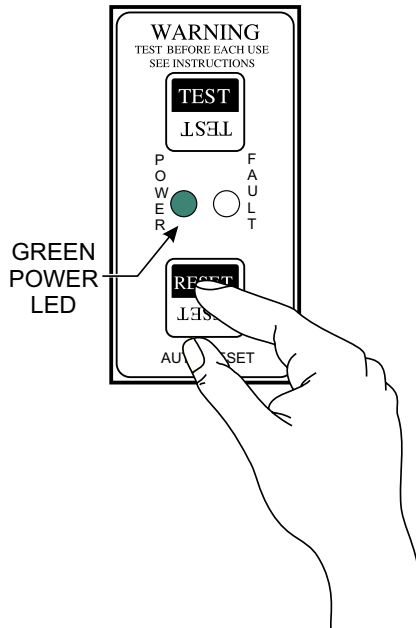

Figure 66. GFCI Sensing Module (Green LED ON)
3. Press the **RESET** button on the GFCI module and verify that the **GREEN** power LED is **ON** (Figure 66)